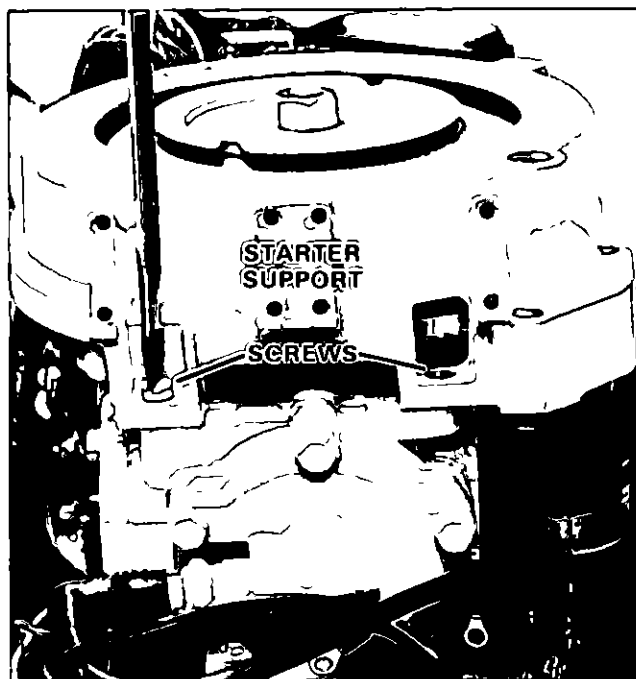

Figure 8. Unfastening Starter Support.
- 2 Remove four (4) screws securing coils to starter support
- 3 Remove two (2) screws securing starter to starter support plate. Lay starter in support plate
- 4 Remove four (4) screws securing starter support to starter support bracket on power head. Figure 8